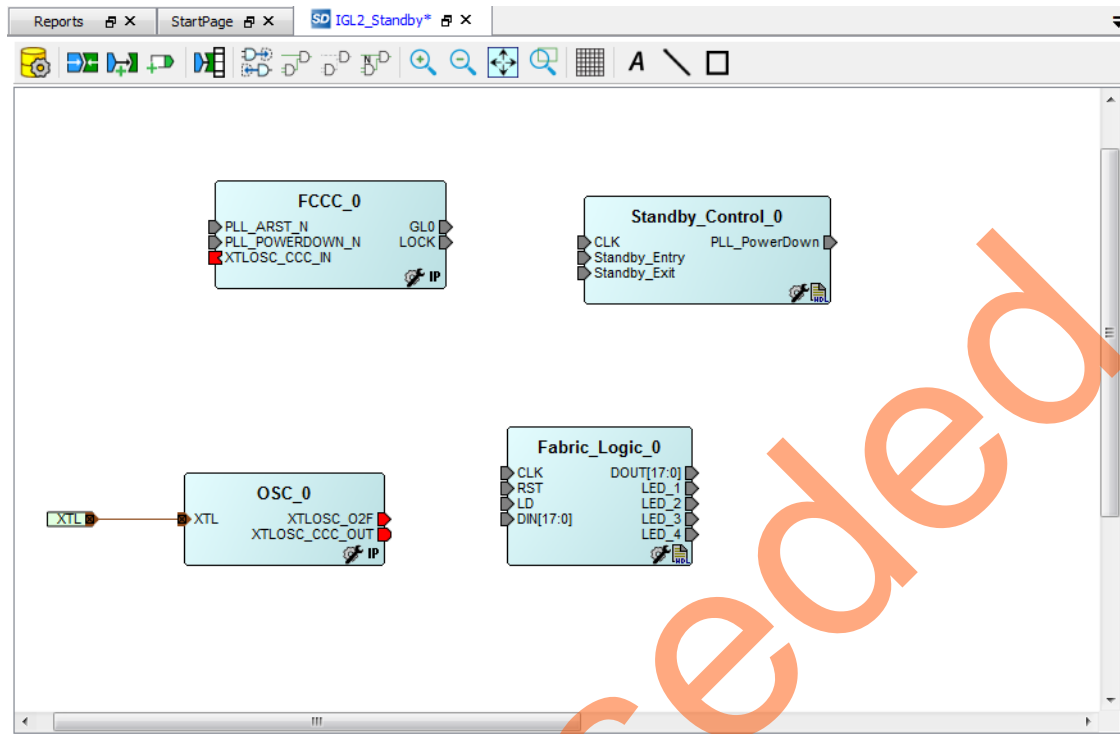

Figure 15 • SmartDesign Canvas after Adding Components
27. After adding the components, the SmartDesign resembles Figure 15. Drag the components to improve the appearance of the canvas.